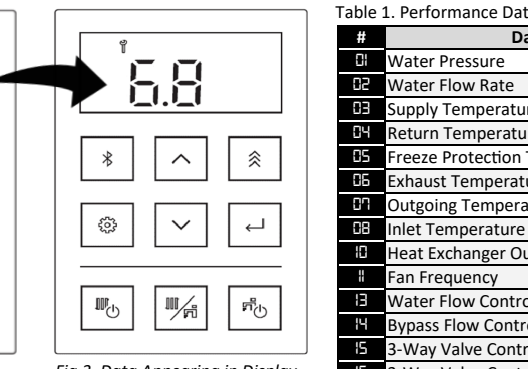

Fig 2. "Up" and "Down" Buttons
- Use the **▲** (Up) and **▼** (Down) buttons (Fig 2) to scroll to the desired information described in Table 1. Performance Data.